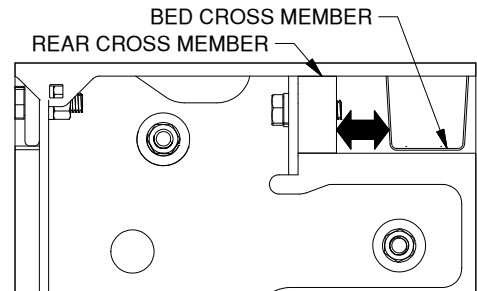

Figure D1: View looking at driver side plate.
- 1. Square the hitch.** Start by hand tightening each of the bolts attaching the center section to the cross members. Next, with a tape measure, check the distance between the Turnoverball hitch and the nearest bed cross member. The distance between the hitch and the cross member should be consistent on the driver side and the passenger side of the hitch, see Figure D1.